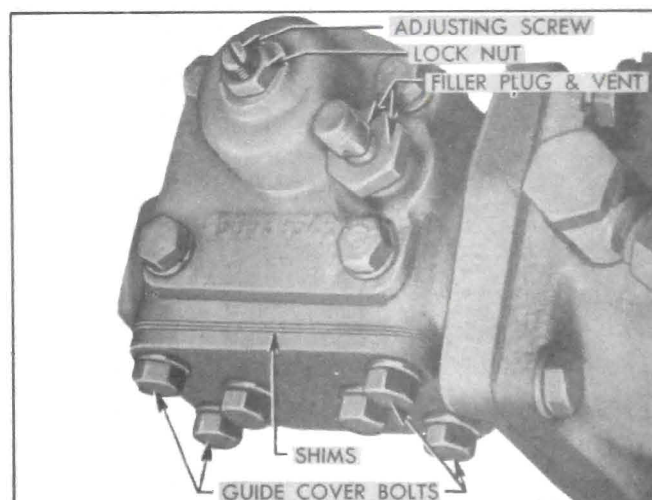

Figure 8-18—Steering Gear Adjustments
3. Loosen the four corner bolts of power rack guide cover about one half turn or just enough to assure lash between the power rack and pitman shaft sector. See figure 8-18. *NOTE: If bolts are loosened too much, the rack will bind on sector teeth.*
10. Turn pitman shaft adjusting screw clockwise until lash between pitman shaft sector and ball nut is just removed, checking by working pitman arm, then tighten lock nut. See figure 8-18.
If reading is not within these limits, add or remove cover shims (fig. 8-18) as required to obtain the specified pull through the "high point" or *no lash range*. Guide cover shims are available in .003" and .005" thicknesses so that they may be combined to produce any required total thickness. NOTE: *To avoid spilling lubricant, it is advisable to remove filler plug with vent attached (fig. 8-18) and use a clean oil gun to draw out approximately $\frac{3}{4}$ pint of lubricant from the gear housing before removing the guide cover.*